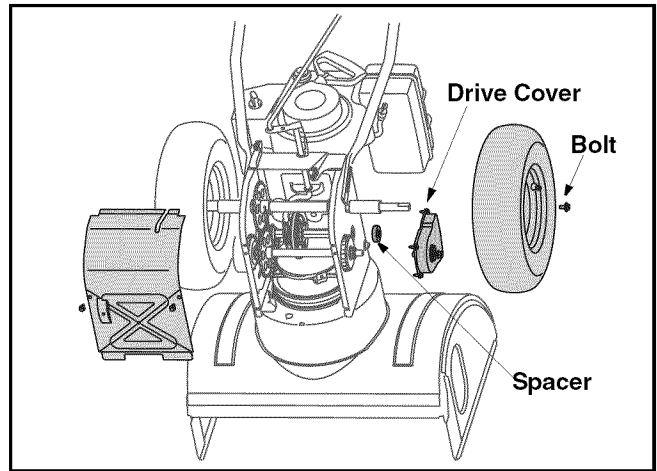

Figure 19
- Remove the four screws securing the right drive cover to the frame. Remove the drive cover from the side of the frame. See Figure 19.
3. With the drive control engaged, the friction wheel must contact the drive plate (Figure 19).